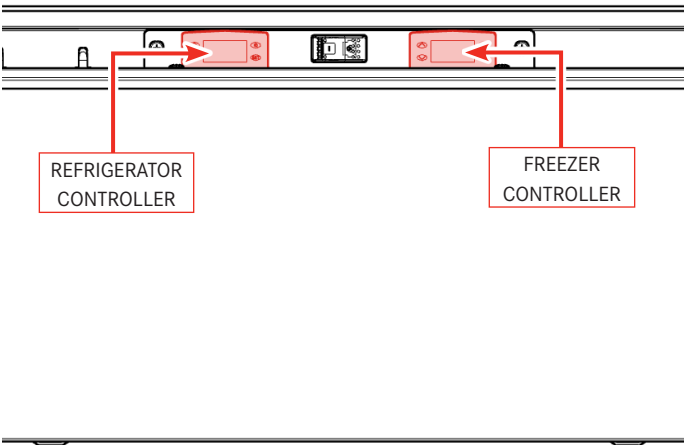

Fig. 4 Temperature Controls (2DCV-30)
1. Locate the appropriate temperature controller on the front of unit (Fig. 4 and 5).